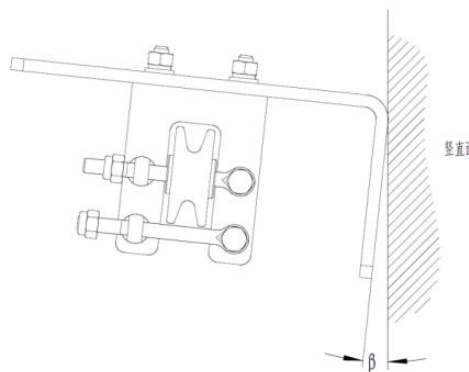

Figure 4.3-12
- (3) The mounting surface of each level guide wheel should be installed parallel to the vertical surface, and the angle  $\beta$  with the vertical surface should meet  $-1^\circ \leq \beta \leq +1^\circ$ , as shown in Figure 4.3-12.